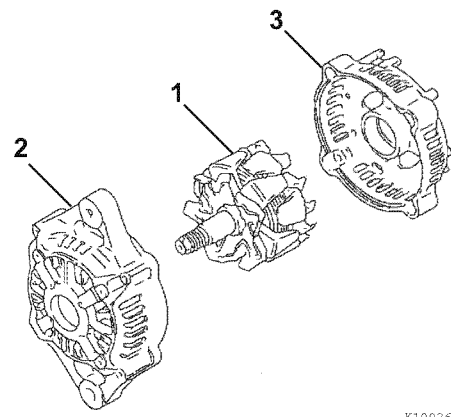

Figure 11-9
- Using a press, remove the rotor assembly (**Figure 11-9, (1)**) from the front frame housing (**Figure 11-9, (2)**) and rear frame housing (**Figure 11-9, (3)**).